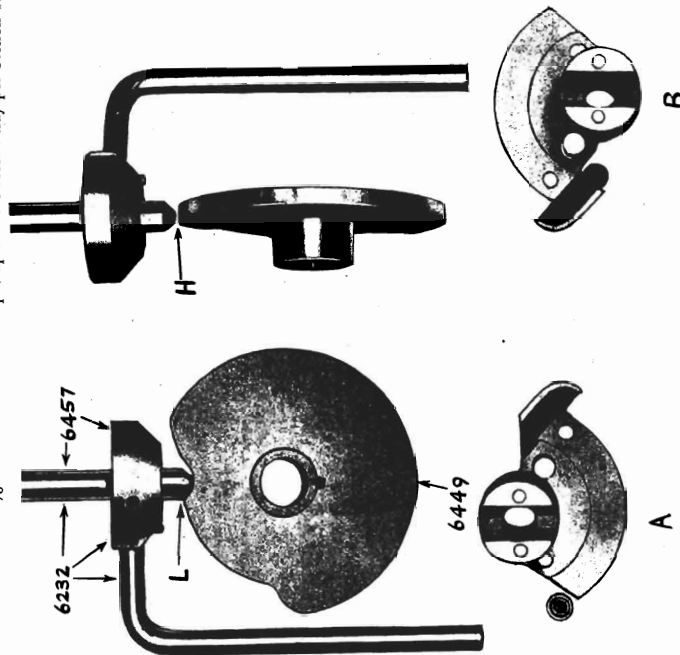

Fig. 9
When the tone arm swings in towards the record, the pickup arm lever hook (5658) (Fig. 1) comes to rest against the pickup arm stop lever (64197) (Fig. 1) and when the tone arm lowers the pickup toward the record it pauses momentarily before the pickup arm lever hook goes through the stop lever. If the record changer is stopped during this pause, it will be found that the ball in the end of the pickup arm lift shaft (6457) (Fig. 9) is at the point marked "L" in Fig. 9 on the lift cam (6449) (Fig. 9). Now if the pickup, with a needle in the proper position, is moved beyond the edge of the record, the point of the needle will extend below the top surface of the record a distance equal to half the thickness of the record. The correct elevation of the pickup is made by the screw in the underside of the tone arm fork against which the pickup cover rests. Loosen the locknut, adjust the screw to bring the needle to the position mentioned above, then lock the locknut.
The collar of the pickup arm swing lever and collar assembly (6232) (Fig. 9) should ride on the leather facing of the friction cam (6691) (Fig. 10) until the pickup arm lever hook (5658) (Fig. 1) has engaged the stop lever (64197) (Fig. 7). Then a slight amount of friction should be maintained after the ball at the end of the pickup lift arm (6457) (Fig. 9) has engaged with the lift cam (6449) (Fig. 9). This friction should be maintained until the needle has touched the record, otherwise the pickup arm may move away from the stop lever and the needle miss the record. If the friction be maintained too long the needle may be forced beyond the first playing groove. To adjust this, the pin locking the friction cam to the main cam shaft should be driven out and the Allen set screw loosened to a sliding tension. The cam is rotated forward, in the direction of rotation of the main cam shaft, to maintain the friction a longer time and backward to maintain it for a shorter time.
ball in the end of the tone arm lift rod (6457) (Fig. 9) travels in the exact center of the tone arm lift cam (6449) (Fig. 9). As shown at H in Fig. 9.
10. Locate the main shaft so that the lower end of the pickup arm lift shaft travels in the center of the pickup arm lift cam, as shown at "H" in Fig. 9. With the main shaft in this position, adjust the main shaft Durex bushings so that there is no end play in the main cam shaft assembly.
13. Mesh the reverse cam assembly driver gear (3516) (Fig. 10) with the reverse cam assembly driven gear so that the identifying punch marks correspond to the original position. The taper pin for the driver gear should be inserted next. If the assembly has been properly made there should be approximately  $\frac{3}{32}$ " clearance between the roller or the reverse cam arm and the reverse cam. See "A", Fig. 9.
14. Throw the control lever to the "One Side" position and rotate the reverse cam with the fingers until it is in the reversing position. Again throw the control lever to the "Both Sides" position. Now there should be approximately  $\frac{3}{32}$ " clearance between the reverse cam and the roller. See "B", Fig. 9. If the clearance is not approximately  $\frac{3}{32}$ " for both positions of the reverse cam it indicates either the gears are not properly meshed or the reverse segment link rod may be bent. A careful check of the latter while the main shaft is out will save time and trouble later.